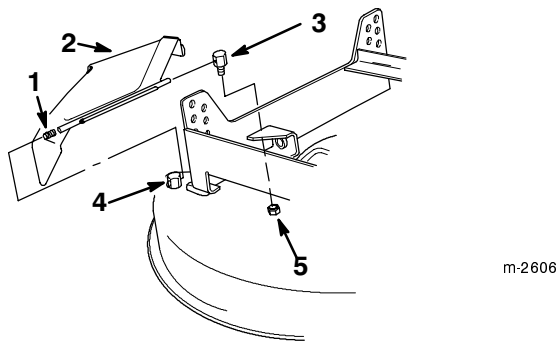

Figure 52
1. Remove the locknut holding the rear deflector pivot post to the mower and remove the rear pivot post (Fig. 52).
2. Remove the deflector assembly from the front (fixed) deflector pivot post and remove the deflector assembly from the mower (Fig. 52).
5. Install the rear deflector pivot post onto the mower and tighten the locknut (Fig. 52).